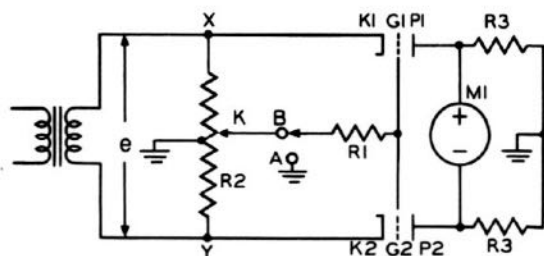

Figure 2-6. Simplified Schematic Diagram, Meter Balancing Circuit
e. The action of the meter circuit is illustrated by figure 2-6. Let grid resistor R-1 be grounded at point A and supply an ac potential, e , across cathodes K-1 and K-2. As both plates are normally at ground potential, conduction will occur only when cathode potentials are negative with respect to ground. With the circuit arrangement illustrated, opposite halves of the tube will conduct on alternate half-cycles of applied voltage.
(1) During the first half-cycle of applied voltage the plate of the conducting triode will be negative with respect to the non-conducting triode and current will flow through meter M-1. On the second half-cycle the polarity of the plates will be reversed and the direction of current flow through meter M-1 will be reversed. By adjusting the ground contact on potentiometer R-2 the potential drop across meter M-1 can be made equal and opposite for each half cycle of applied voltage e . The average current flow, being the algebraic sum of the currents during each half cycle, will then be zero and the meter M-1 will read zero.
(2) Let resistor R-1 be connected to slide contact K and balance will be maintained only when K is at ground potential. Moving K towards Y will decrease the potential difference between grid G-2 and cathode K-2 while increasing the potential difference between grid G-1 and cathode K-1. This is equivalent to saying that, relative to ground, the potential applied to grid G-2 is in phase with the potential applied to cathode K-2 while the voltage